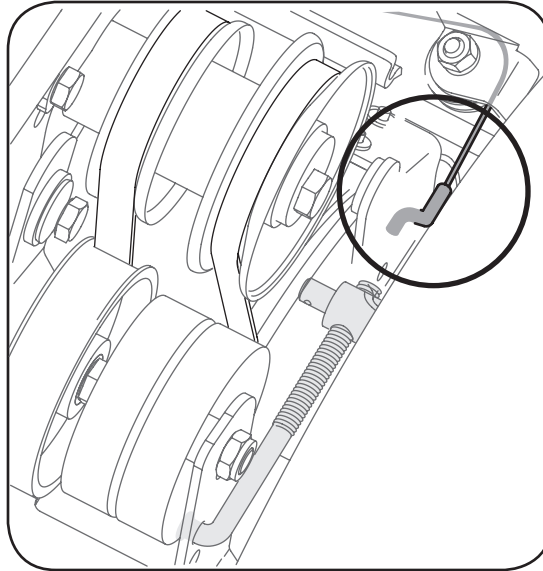

Figure 6-9
7. Pull the brake bracket assembly towards the cable guide roller and unhook the auger cable "Z" fitting. See Figure 6-9.